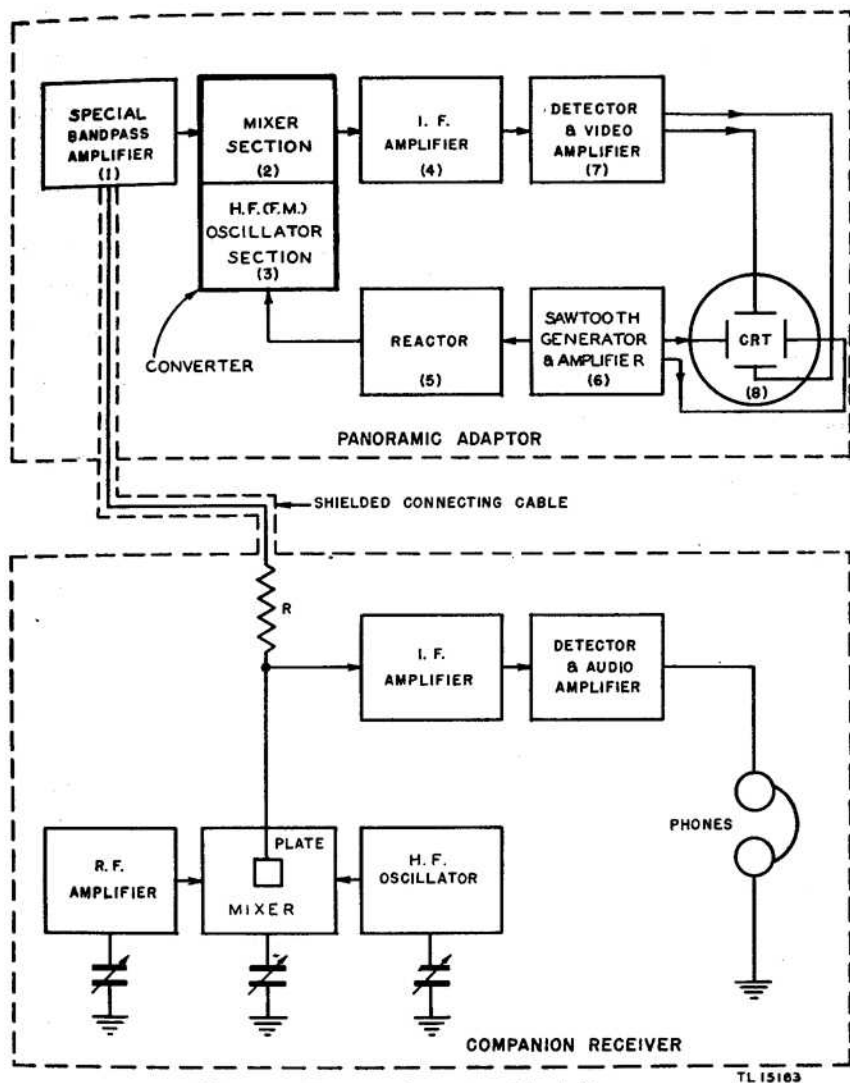

Figure 7. Panoramic system, block diagram.
**a. Introduction.** The panoramic adaptor, used in conjunction with a superheterodyne receiver, is a visual indicator of received signals. Each signal picked up on the receiving antenna, over a definite range of frequencies, places a corresponding mark or peak on the calibrated scale of an oscilloscope. Panoramic Adaptors BC-1031-A and -B show a frequency band extending 100 kc on each side of the frequency tuned in; Panoramic Adaptors BC-1032-A and -B show a frequency band extending 500 kc on each side. The entire system consists of three major parts: a conventional superheterodyne (companion receiver), the superheterodyne section of the adaptor which receives its signal from the mixer output of the conventional receiver (fig. 7), and the oscilloscope circuits. The features of the panoramic adaptor which distinguish it from the conventional superheterodyne are as follows:
(1) The special band-pass amplifier in the BC-1031-A or BC-1031-B passes a wide band of frequencies ( $455 \text{ kc} \pm 100 \text{ kc}$ ) in comparison to the sharply selective i-f amplifier of the conventional companion receiver. Therefore, signals which beat with the h-f oscillator of the companion receiver to produce difference frequencies separated as much as 100 kc from the 455-kc i-f frequency, pass into the panoramic i-f system with signal strengths equal to a 455-kc difference signal. However, these same signals do not appear in the audio output of the companion receiver, as its i-f system is sharply tuned to 455 kc and only receives signals which produce a 455-kc intermediate frequency.
(2) The h-f oscillator of the panoramic superheterodyne is frequency-modulated instead of set on a fixed frequency. The oscillator is tuned over a band of frequencies at a fixed rapid rate. Therefore, during one sweep cycle it will be beat progressively
shown on the block diagram in figure 7, consists first of the special band-pass amplifier which passes a wide band of frequencies. In the case of Panoramic Adaptor BC-1031-A, if the companion receiver is tuned to 3,000 kc, all signals received from 2,900 to 3,100 kc appear in the output of the band-pass amplifier as frequencies covering a range from 355 to 555 kc. Furthermore, the amplification factor from the antenna to the output of the band-pass amplifier is reasonably constant over this 200-kc range of frequencies.